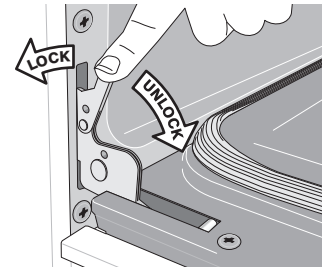

Figure 29: Door hinge locks
2. Pull the door hinge locks on both left and right door hinges down from the oven frame completely towards the oven door (See Figure 29). A tool such as a small flat-blade screwdriver may be required.
4. Push the door hinge locks up towards and into the oven frame on both left and right oven door hinges to the locked position (See Figure 29).